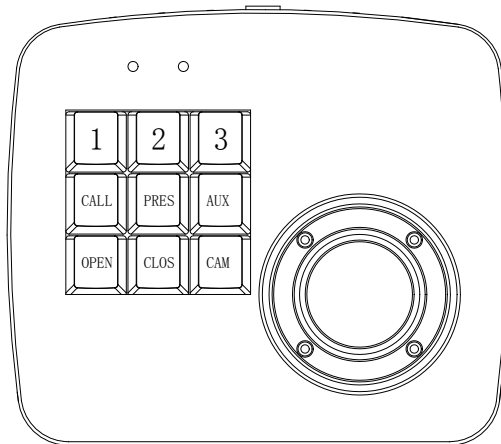

Figure 1
1. Front panel board and button description (Figure 1)